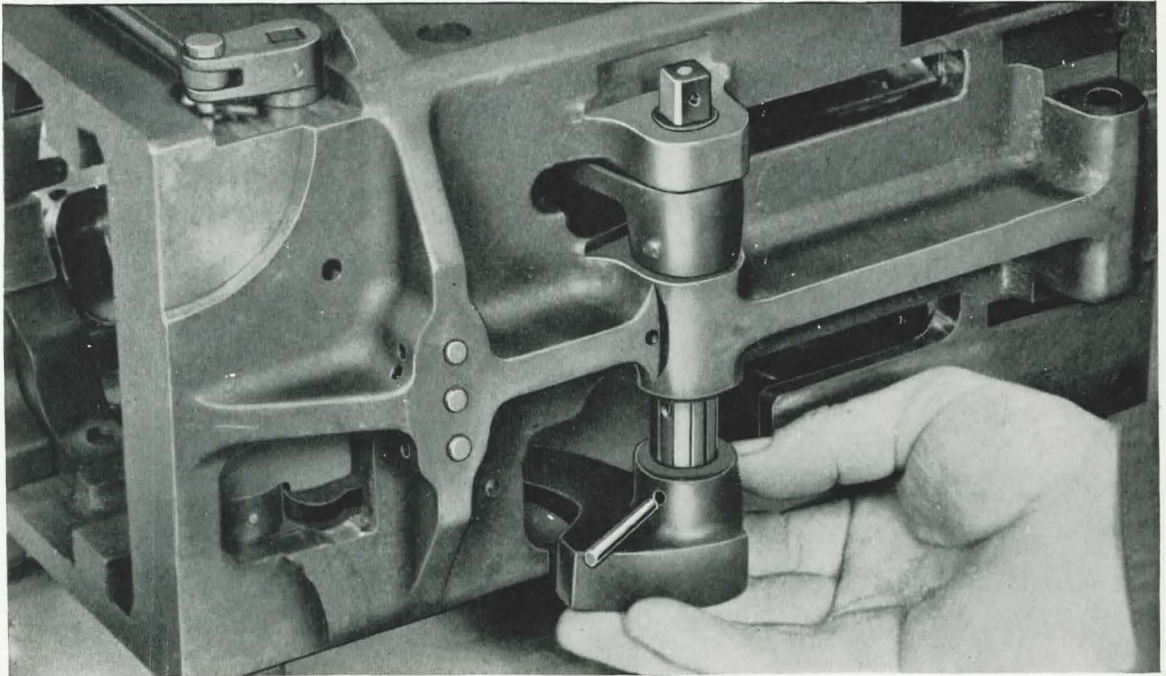

Figure 66
- (4) Remove the catch release link and the rammer cocking lever shaft arm.
- (5) Remove the outboard rammer cocking lever, **Figure 66**.
- (6) Remove the inboard rammer cocking lever and shaft.